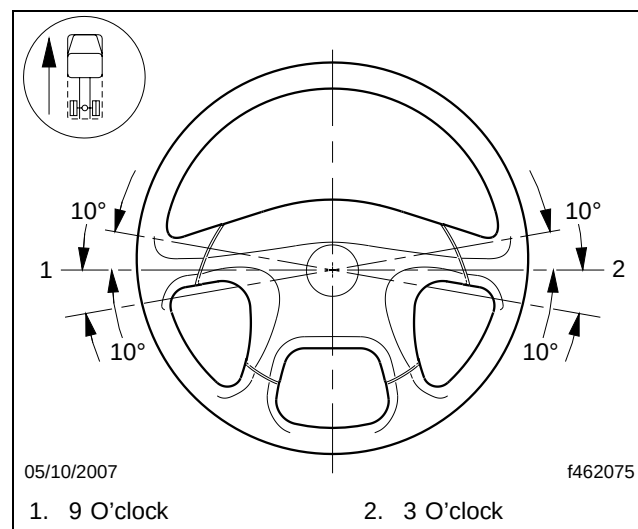

Fig. 15, Steering Wheel Centered
56. Make sure that the steering wheel is within 10 degrees of center as shown in **Fig. 15**. If it is not, remove and center the steering wheel.